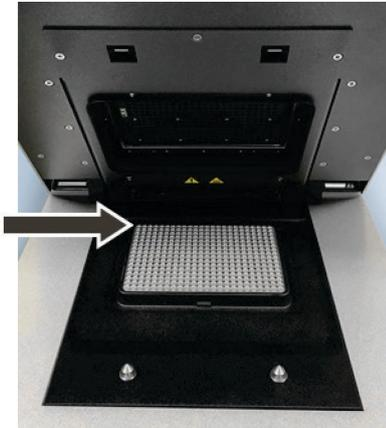

Figure 7. Position A1 on the sample block.
3. Place the PCR plates onto the thermal block in such a way that well A1 is on the left-hand side (Figure 7). This position corresponds to the well allocation in the QIAquant 384 Software program.